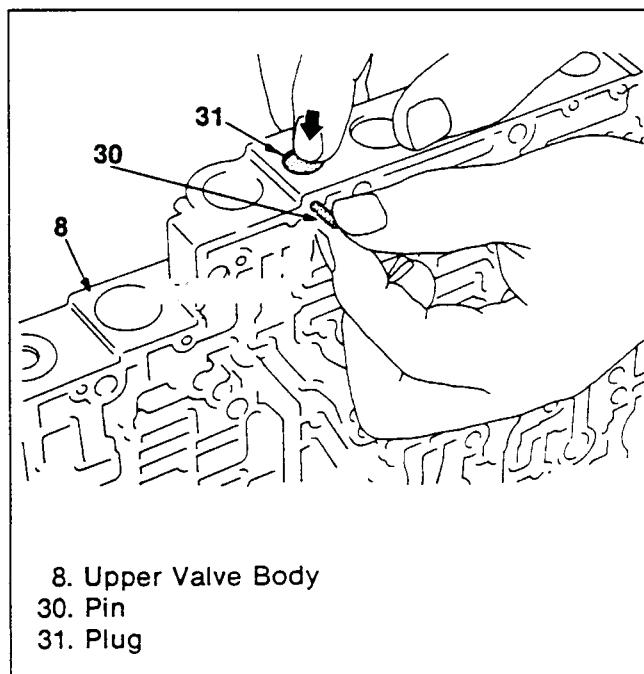

**Figure 105. Pin Removal (1)**
2. Push pin out with some fine wire (figure 105).